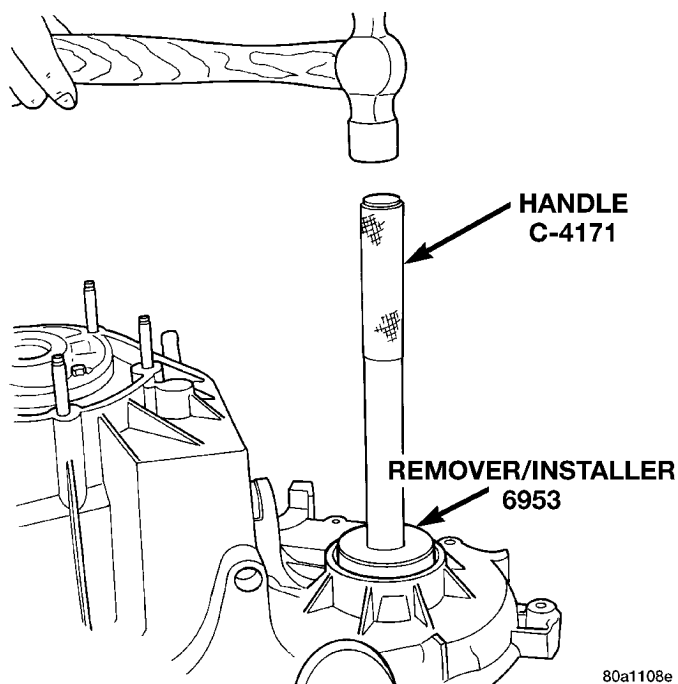

Fig. 45 Remove Output Shaft Front Bearing
(3) Using tool 6953, remove bearing from front case (Fig. 45).